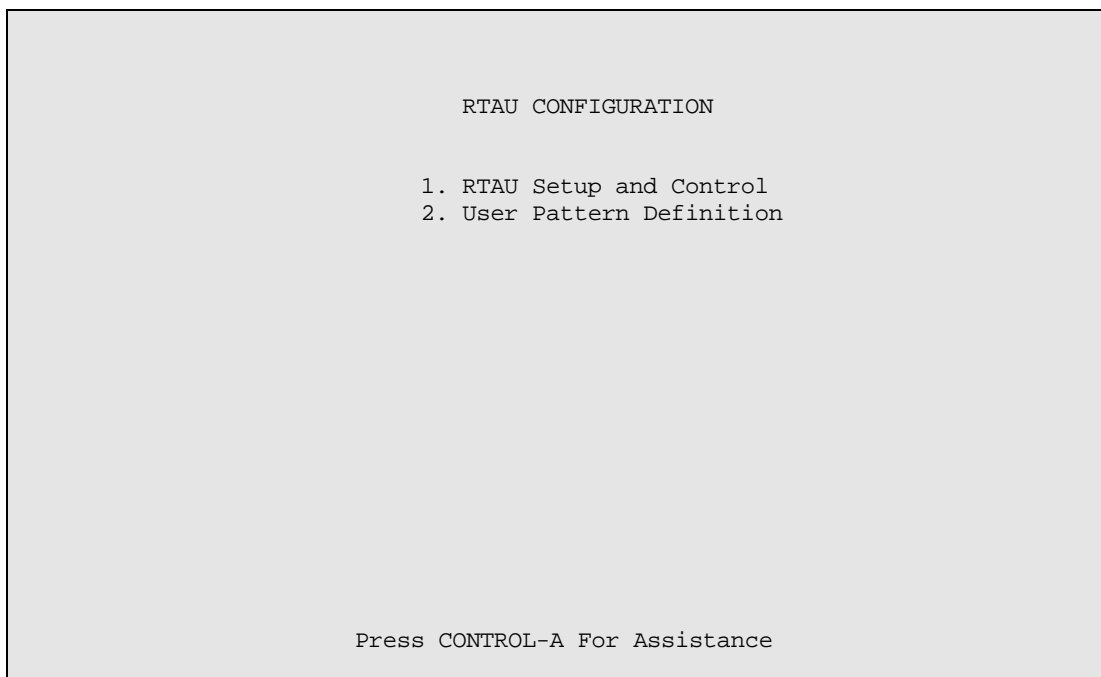

Figure 5. RTAU Configuration Menu
4. Use the arrow or keyboard keys to select Test Access Unit Commands from the System Maintenance menu. Press Enter or Return. The RTAU Configuration menu will appear as shown in Figure 5.